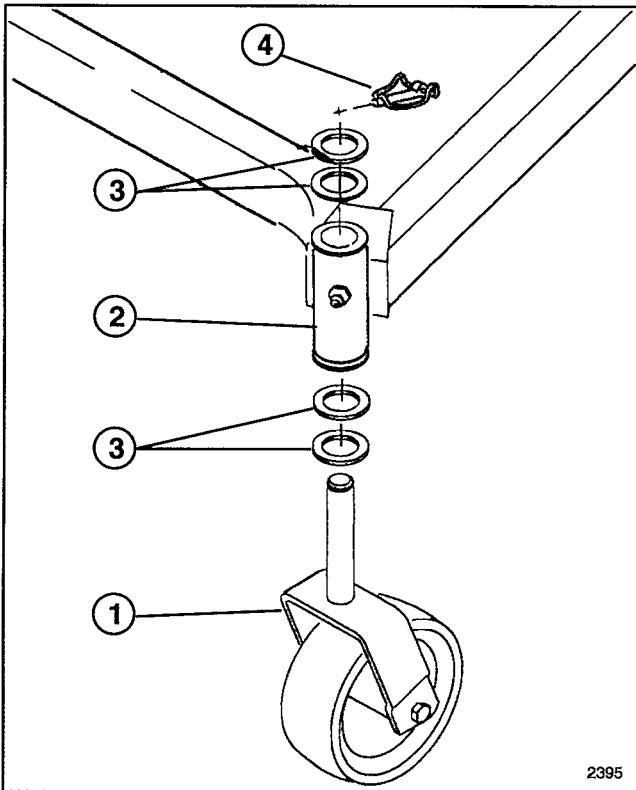

Figure 1
1. Place (2) thrust washers onto castor wheel shaft (Fig. 1).
2. Insert shaft into carrier frame mounting tube. Install (2) thrust washers and secure with lynch pin (Fig. 1).